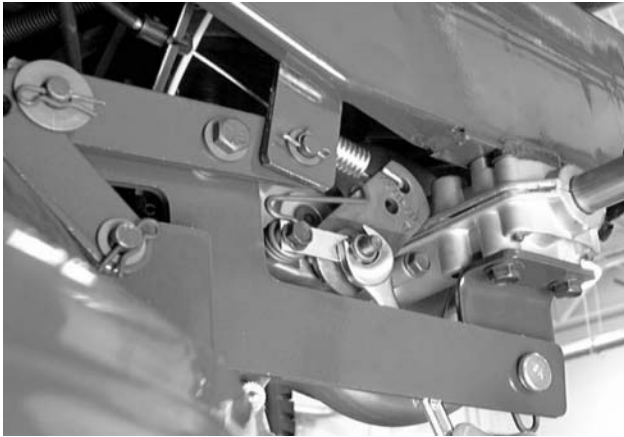

Figure 8-53.
9. Loosen (DO NOT REMOVE) the locking hex nut that secures the brake actuation arm to the brake assembly using a 1/2" wrench. See Figure 8-53.